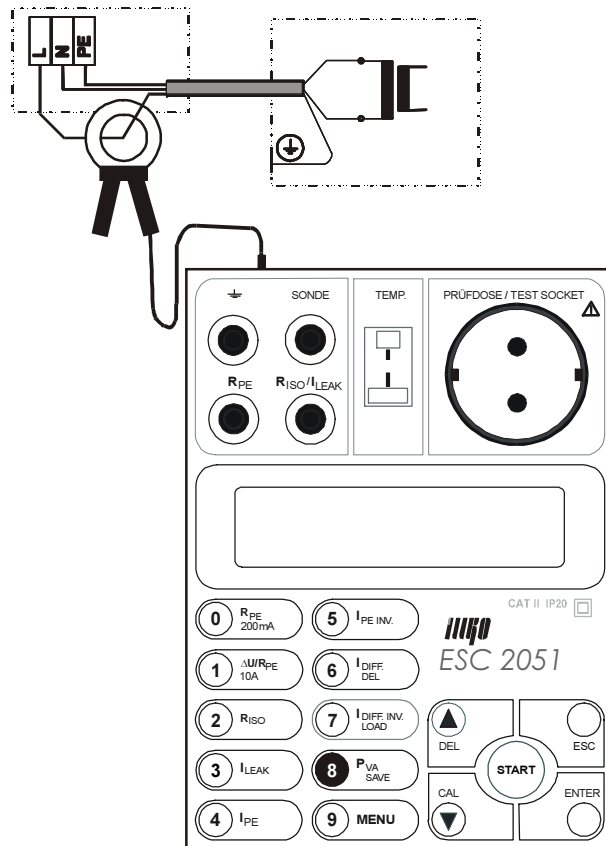

Fig. 16
- Enclose L conductor with current clamp (Fig. 16).